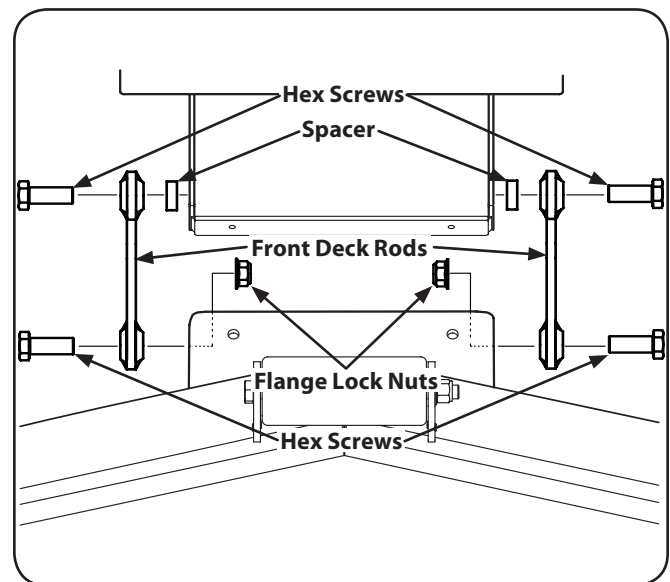

Figure 7-4
6. Remove the hex screw, spacer and flange lock nut securing the front deck rods to the deck. See Figure 7-4.